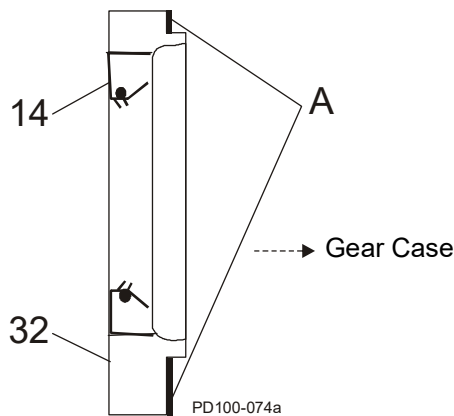

Figure 54 - Install Bearing Retainer
18. Coat the retainer flanges with silicone sealant (Figure 54, item A). (Gore-Tex® sealing tape can be used on silicone-free models.) The grease seal (item 14) should be flush with the front of the bearing retainer. On the 030 models, the grease seal is positioned against the step on the inside diameter of the retainer.
19. Install the bearing retainers (Figure 54, item 32).